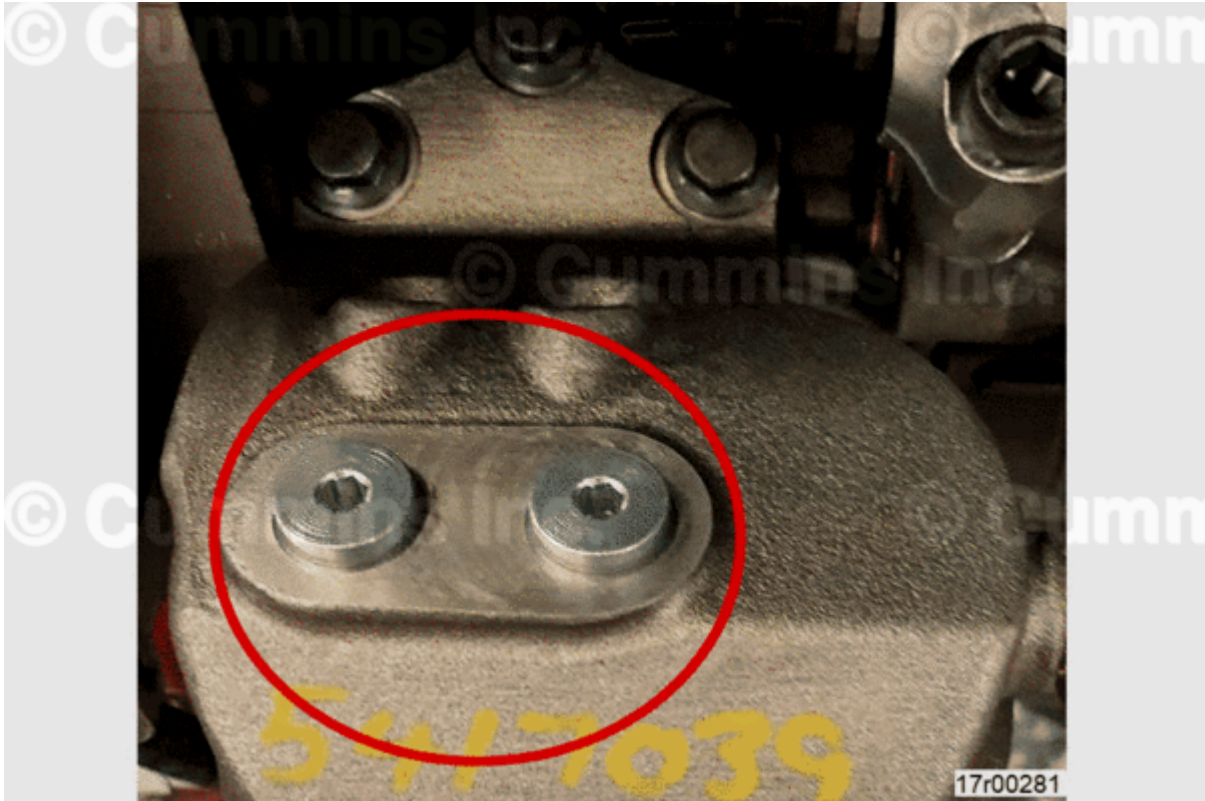

Figure 13, Port Plug Locations on Fuel Pump Lubricating Oil Filter Head..
4. Install port plugs into top of fuel pump lubricating oil filter head. See Figure 13 above.